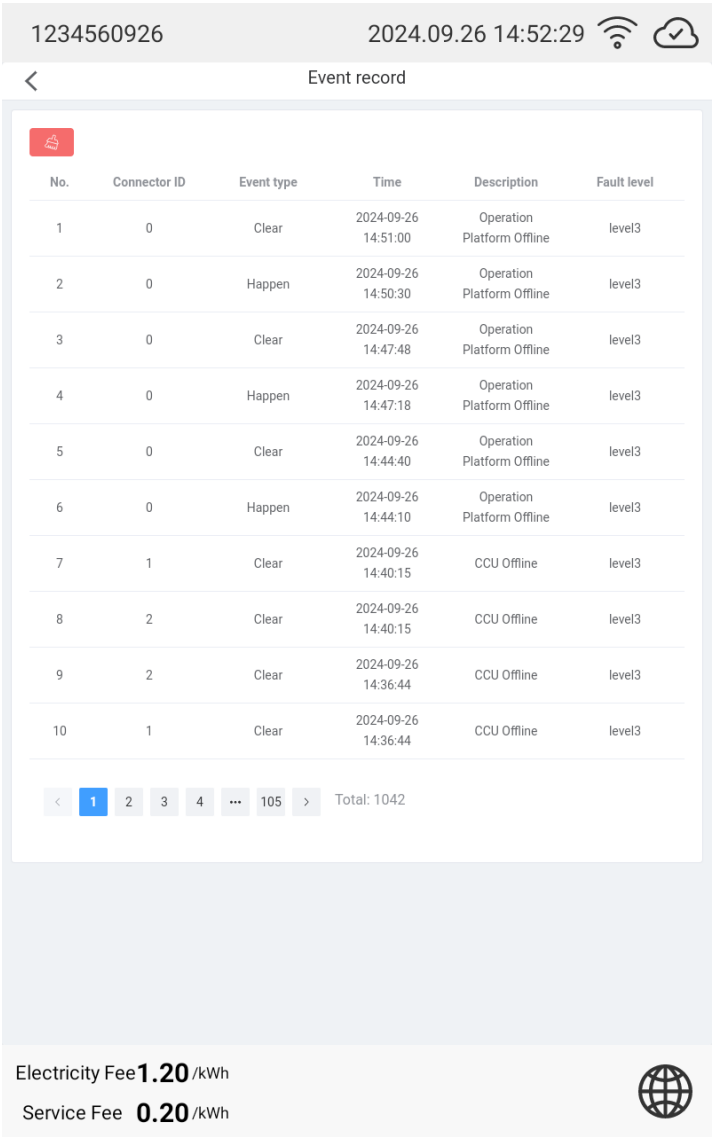

Figure 6-3-8
7) Event record: Record all events. As shown in Figure 6-3-8.